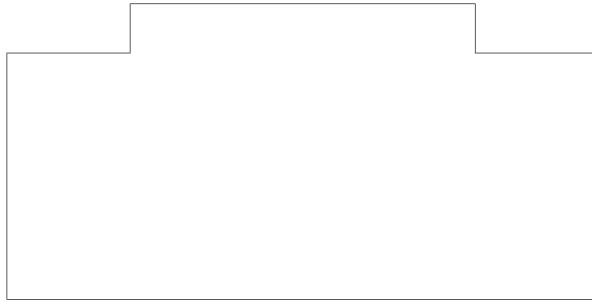
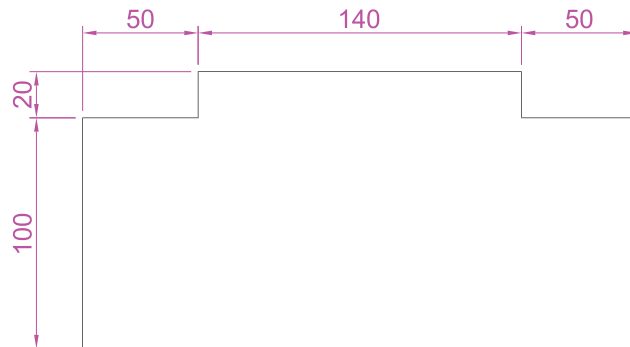

Fig. 6.7 First example – outline to dimension
Fig. 6.8 First example – horizontal and vertical dimensions
1. Construct the outline in Fig. 6.8 using the **Line** and **Fillet** tools.
- If the response is **a** (Angle), and an angle number is *entered* the text for the dimension will appear at an angle. Figure 6.7 shows a radius dimension *entered* as an angle of 45°.
First example – **hor** and **ve** (horizontal and vertical) – Fig. 6.8
1. Construct the outline Fig. 6.7 using the **Line** tool. Its dimensions are shown in Fig. 6.8.
The result is shown in Fig. 6.8.